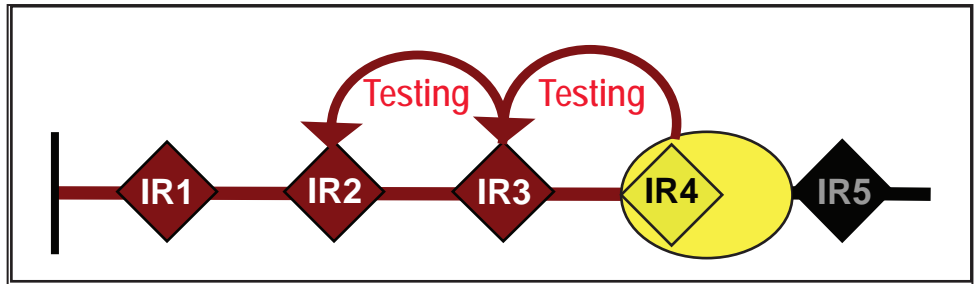

Figure 21. CEC temporary fault; IR4 trips and begins testing.
- IR4 trips and begins testing. See Figure 21 on page 43.